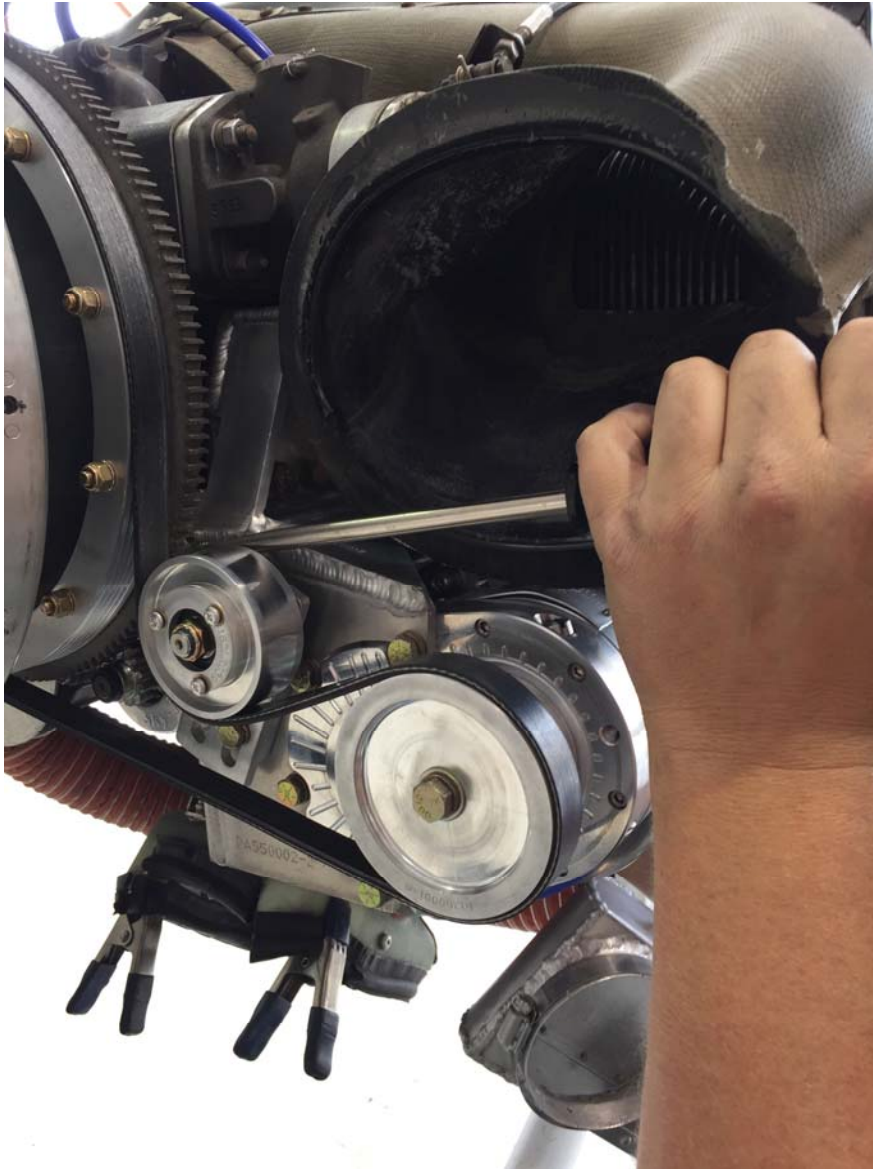

Figure 3.
- Loosen the bolts holding the idler in place and use a screwdriver or similar device to pry against the starter ring gear teeth and the top of the idler bracket to tension the belt. Figure 3.